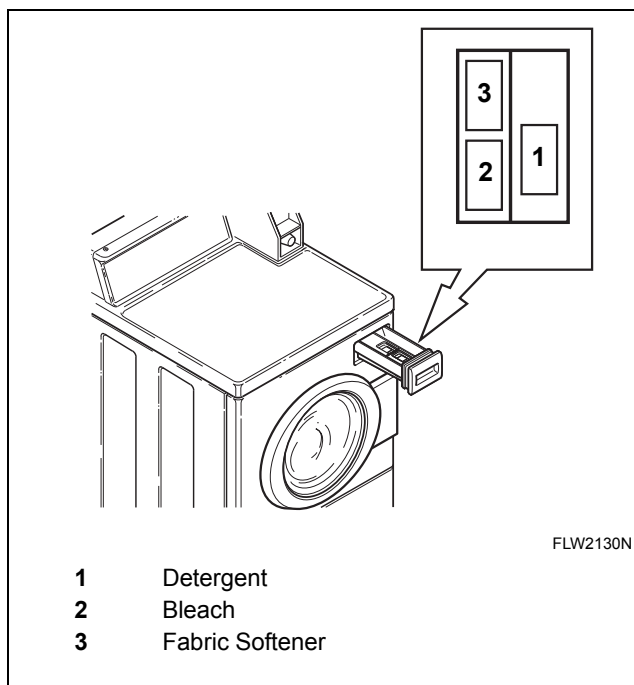

Figure 42
Open dispenser drawer. Measure and add low sudsing, high efficiency (HE) detergent (1), bleach (2) and fabric softener (3) to the dispenser drawer (refer to Figure 42). Close dispenser drawer.